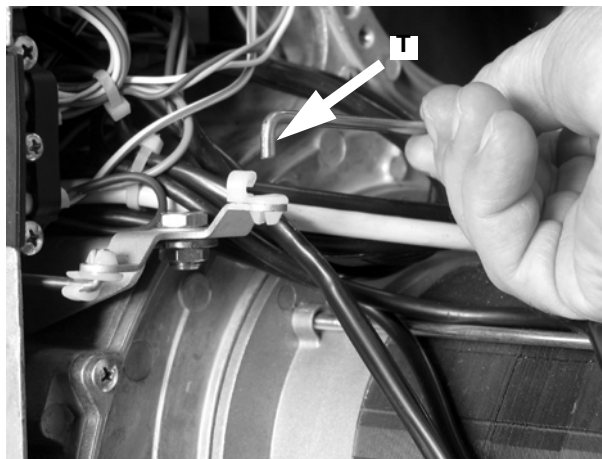

Fig. 45
- Remove the rod **T** from its housing as shown in Fig. 45.
- Refit the rod **T** (Fig. 45).